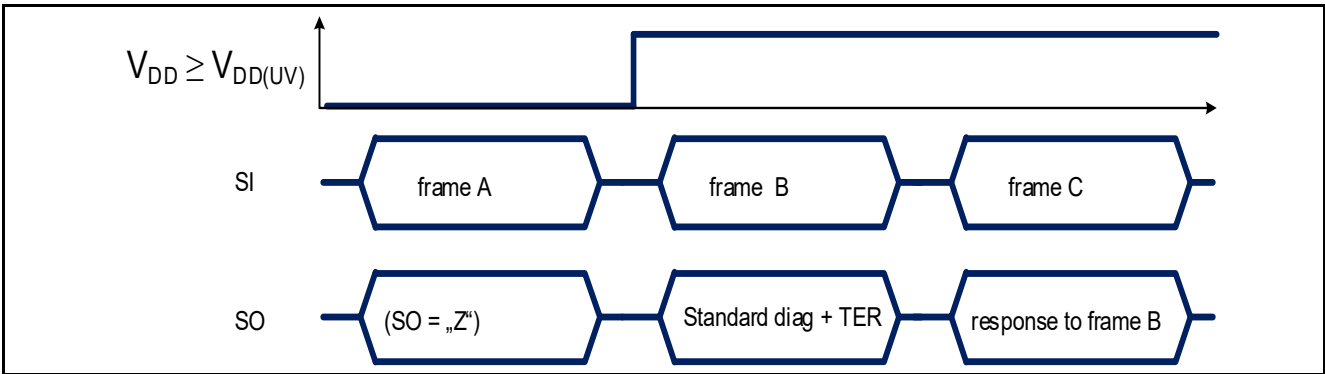

Figure 36 TLD5501-2QV response after coming out of Power-On reset at V_{DD}
- when TLD5501-2QV logic supply comes out of an Undervoltage reset condition ($V_{\text{DD}} < V_{\text{DD(UV)}}$) as shown in **Figure 36** or $\text{EN/INUVLO} < V_{\text{EN/INUVLOth}}$